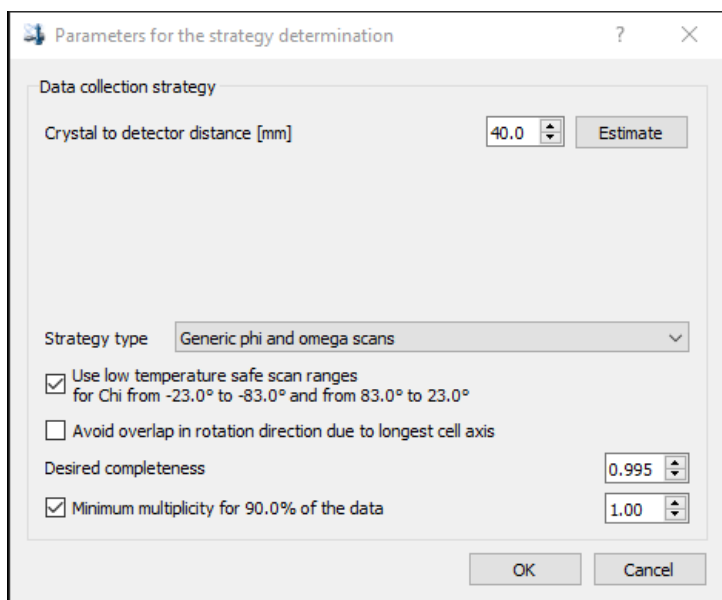

Figure 19, Determine Strategy popup window
- Click **<Determine Strategy>** (lower right corner). In the pop-up window (Fig. 19), it is usually safe to use the default values. Click **<OK>**.